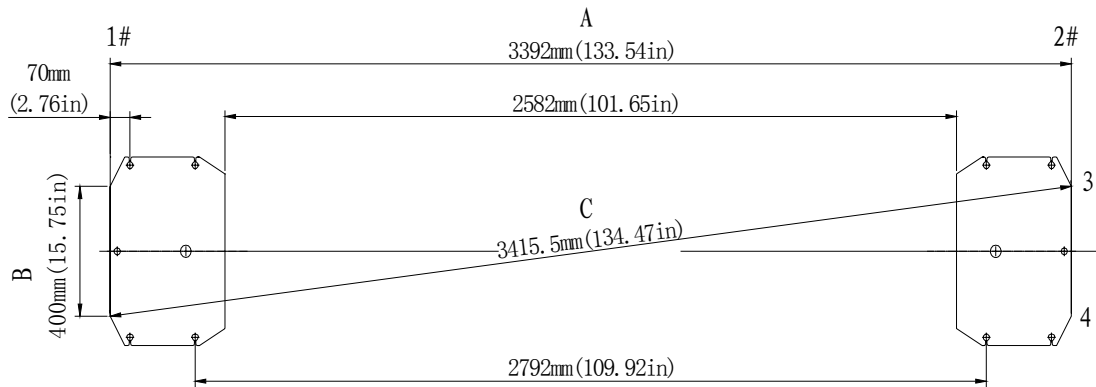
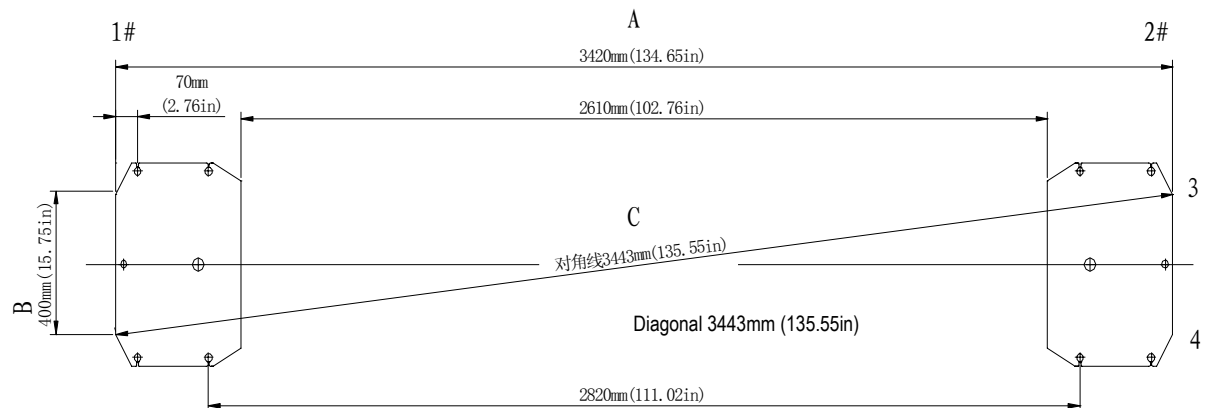
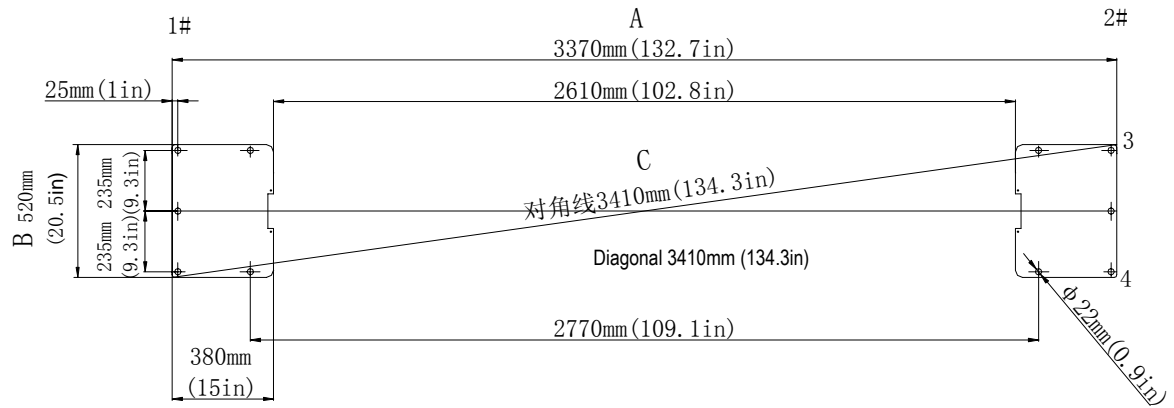

Fig.9a
Fig.9b
Fig.9c
TLT235SC(U) symmetric installation is shown in Fig.9a, TLT235SC、TLT240SC symmetric installation is shown in Fig. 9b, TLT235SB、TLT240SB symmetric installation is shown in Fig.9c:
- With total width (A) as the basis, draw two parallel